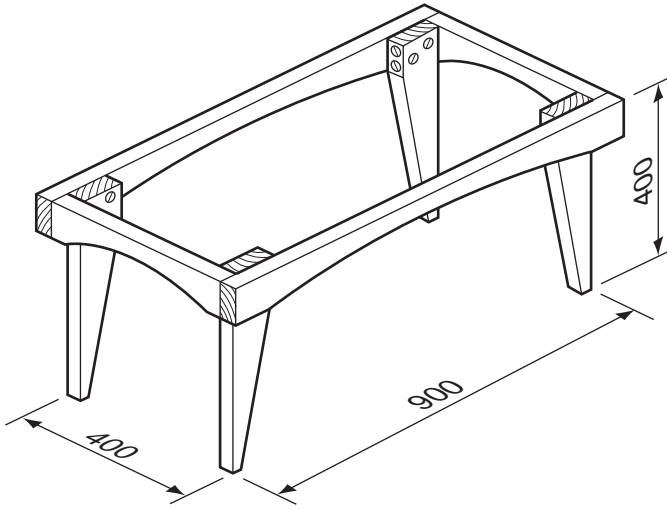
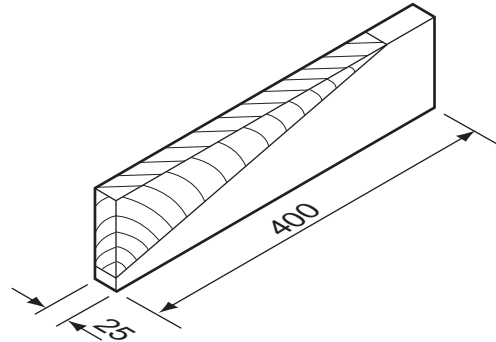

Fig. 6a
Fig. 6b
- 11 Fig. 6a shows a coffee table made from softwood. Fig. 6b shows one leg of the coffee table marked out. The coffee table is to be self-assembled using only a screwdriver.